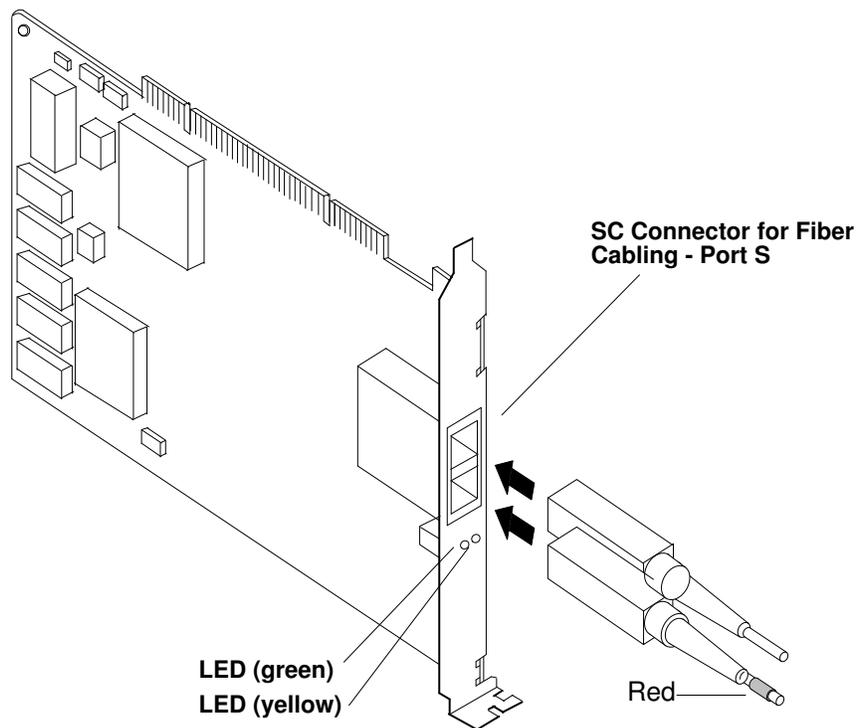
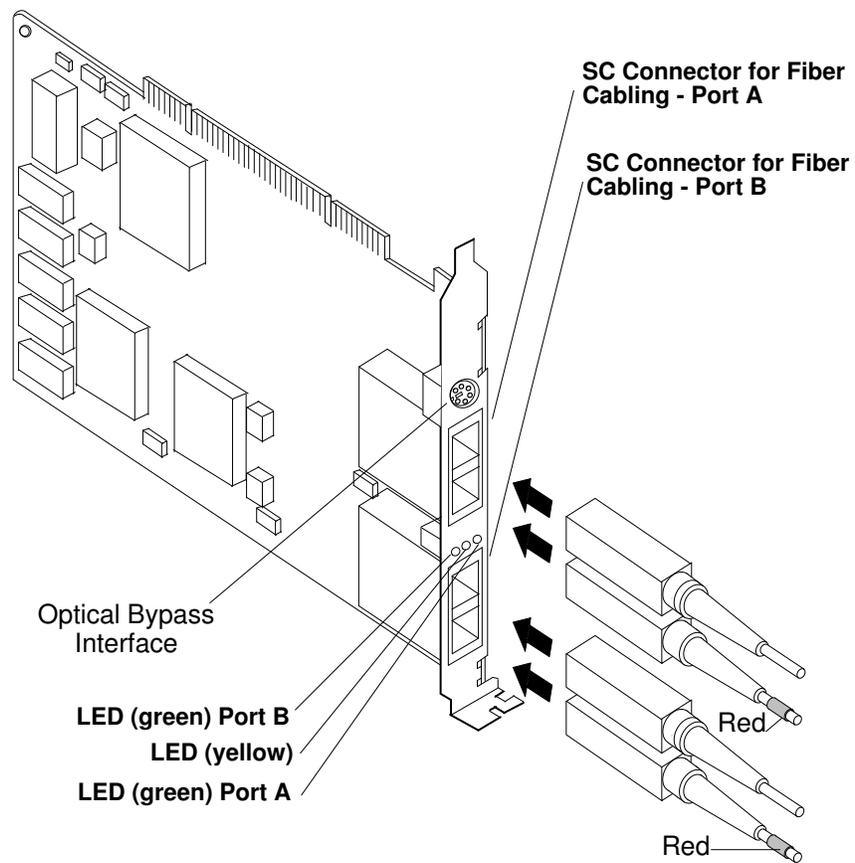

Figure 5. FDDI Fiber Single Ring (Type B5-4 PCI Adapter).
Figure 6. FDDI Fiber Dual Ring (Type B5-5 PCI Adapter).
- Figure 5. FDDI Fiber Single Ring (Type B5-4 PCI Adapter). 1-5
- Figure 6. FDDI Fiber Dual Ring (Type B5-5 PCI Adapter). 1-5
The FDDI Fiber Single Ring (Type B5-4 for PCI Adapter), see Figure 5, and the FDDI Fiber Dual Ring (Type B5-5 for PCI Adapter), see Figure 6, use a SC fiber optic cabling connection.